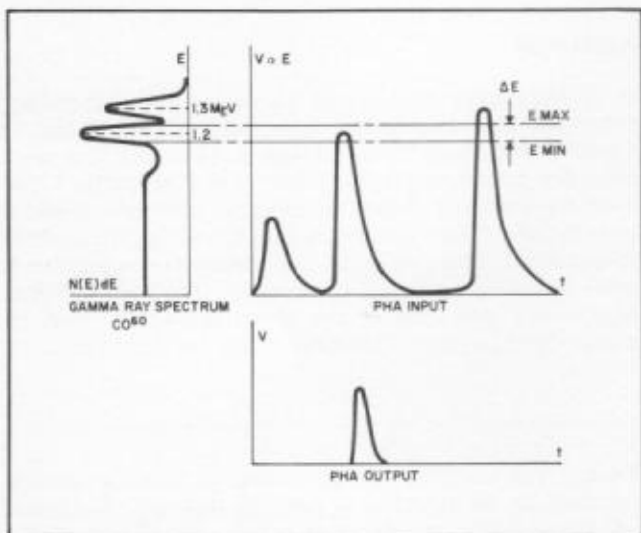

Figure 3. Differential pulse height discrimination
Each input pulse is presented to a pair of discriminators, referred to as the lower level discriminator and the upper level discriminator; E_{min} and E_{max} are the energies to which the trigger levels of these discriminators correspond. These two limits define a "window" or "channel" corresponding to an energy band of width ΔE . To understand the action of these discriminators, consider three cases where: (1) the pulse height is less than the preset value of E_{min} , (2) the pulse height is greater than E_{min} but less than E_{max} , and (3) the pulse is greater than both. Figure 3 diagrams these pulses and shows their relationship to a typical spectrum.